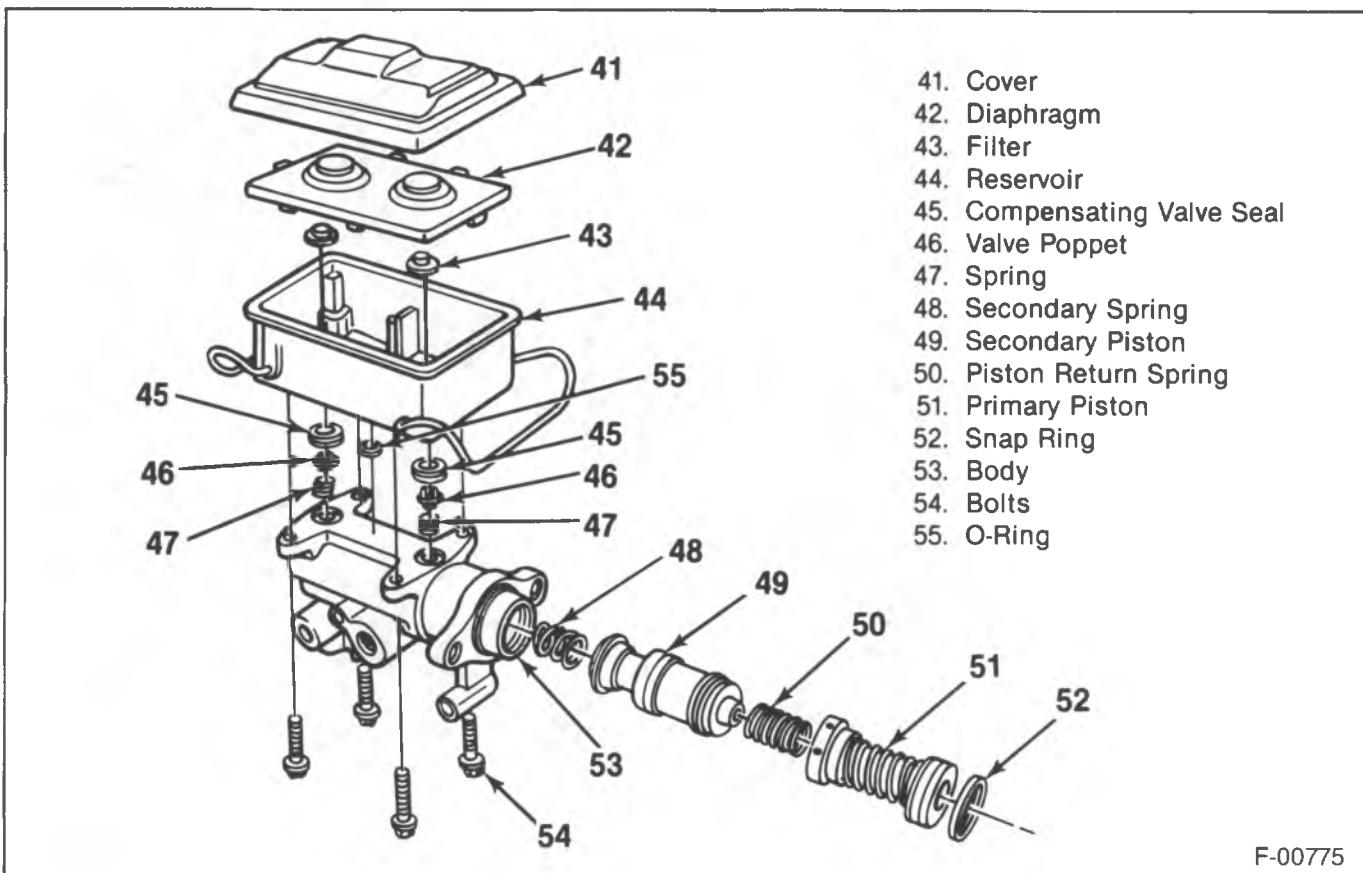

Figure 19—Bendix Master Cylinder Components
**Remove or Disconnect (Figure 19)**
1. Cover (41).
2. Diaphragm (42).
3. Bolts (54) and reservoir (44).
4. O-ring (55) and compensating valve seals (45).
5. Valve poppets (46) and springs (47).
6. Snap ring (52).
7. Primary piston assembly (51) and piston return spring (50).
Install or Connect (Figure 19)